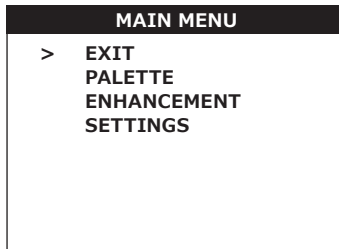

FIGURE 2-7. MAIN MENU
Once the MAIN MENU is displayed (Figure 2-7), use buttons (1) and (2) to navigate through items on the menu.